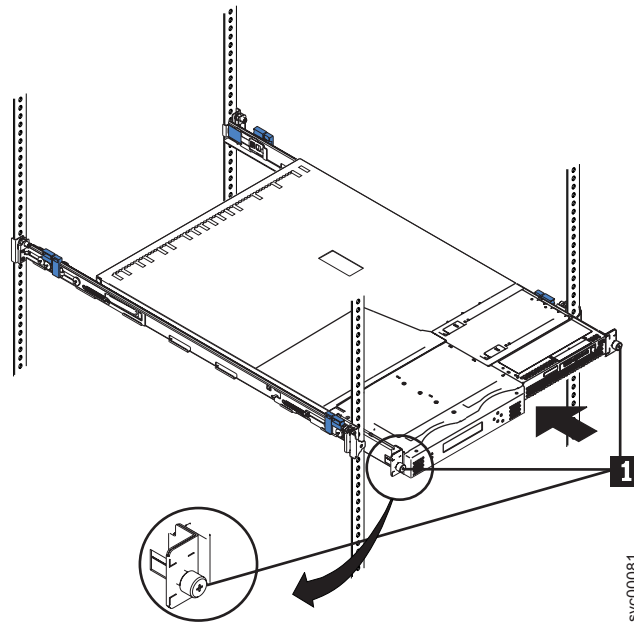

Figure 43. Installing the SAN Volume Controller 2145-4F2 into a rack
3. For the SAN Volume Controller 2145-4F2 model only, fully tighten the two captive thumbscrews **1**. (See Figure 43.) The SAN Volume Controller 2145-8F2 and the SAN Volume Controller 2145-8F4 snap into place.